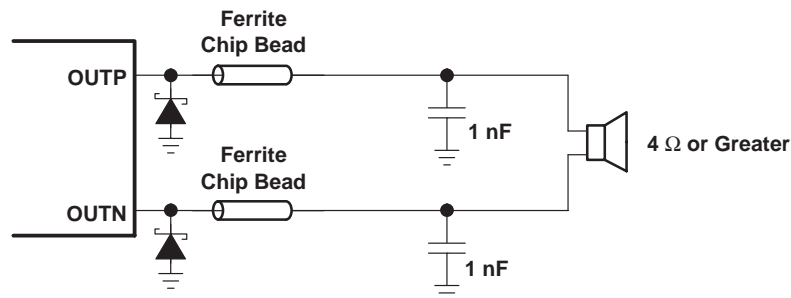
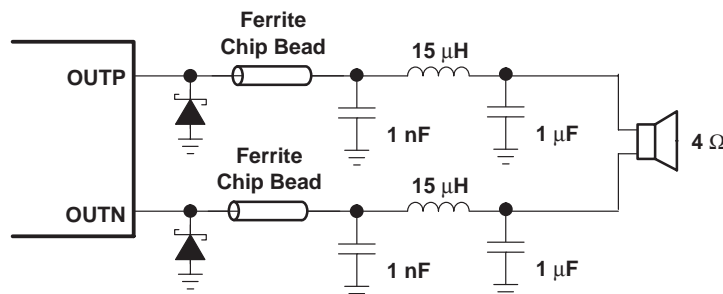
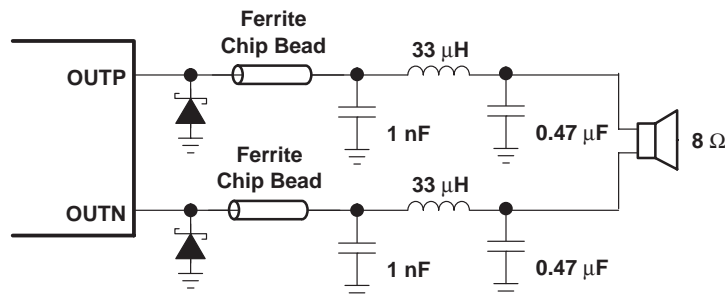

Figure 34. Typical Ferrite Chip Bead Filter (Chip bead example: Fair-Rite 2512067007Y3)
Figure 35. Typical LC Output Filter for 4-Ω Speaker, Cutoff Frequency of 41 kHz
Figure 36. Typical LC Output Filter for 8-Ω Speaker, Cutoff Frequency of 41 kHz
A ferrite bead filter (shown in Figure 34) should be used in order to pass FCC and/or CE radiated emissions specifications and if a frequency sensitive circuit operating higher than 1 MHz is nearby. The ferrite filter reduces EMI around 1 MHz and higher (FCC and CE only test radiated emissions greater than 30 MHz). When selecting a ferrite bead, choose one with high impedance at high frequencies, but very low impedance at low frequencies.
Use an additional LC output filter if there are low frequency (<1 MHz) EMI sensitive circuits and/or there are long wires (greater than 11 inches) from the amplifier to the speaker, as shown in Figure 35 and Figure 36.
- Output filter — The ferrite filter (Figure 34, page 18) should be placed as close to the output terminals (pins 10, 11, 14, and 15) as possible for the best EMI performance. The LC filter (Figure 35, page 18 and Figure 36, page 19) should be placed close to the ferrite filter. The capacitors used in both the ferrite and LC filters should be grounded to power ground.